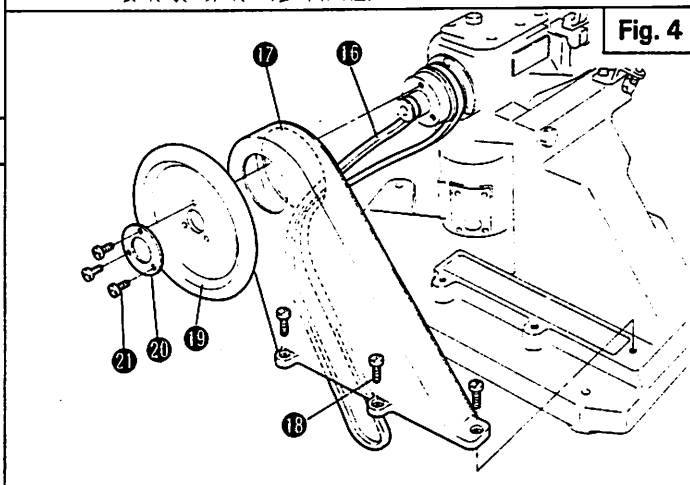

Fig. 4
4. Refer to Fig. 4 and attach Belt ⑯ and Belt Cover ⑰, ⑱ – ⑳ in sequence.